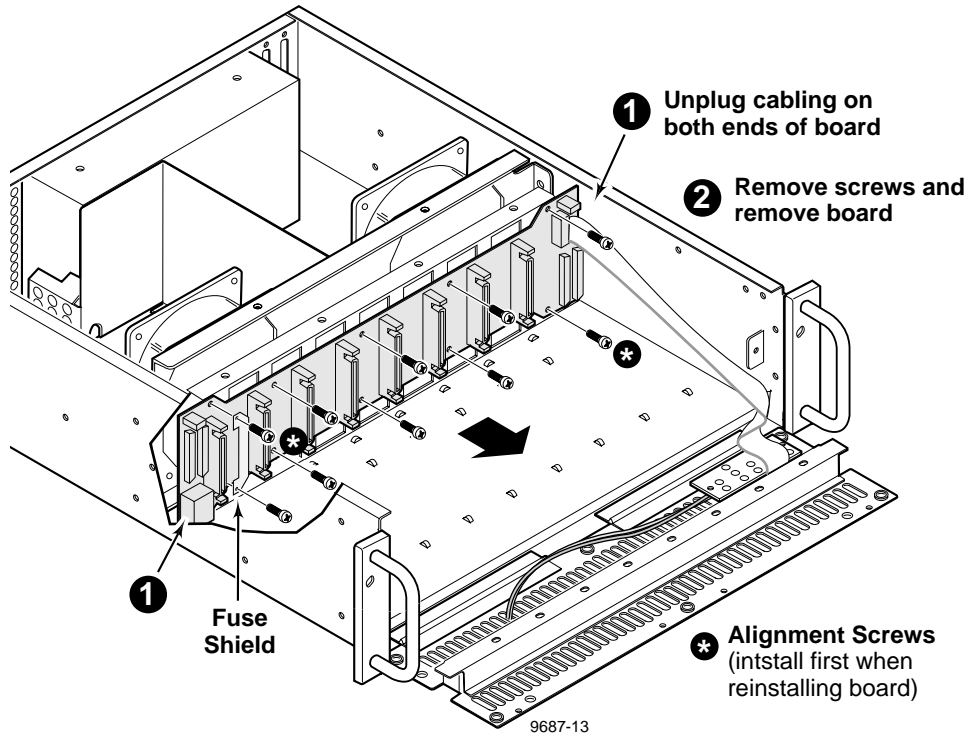

Figure 3-15. PDX218 SCSI Distribution Board Removal
Figure 3-15 shows removal of the SCSI Distribution board.
8. Disconnect all cables (listed below) from the SCSI Distribution board (Figure 3-15).
1. Align the SCSI Distribution board in the chassis by attaching the screw at the lower right and the screw at the upper left (Figure 3-15).
3. Connect all previously disconnected cables to the SCSI Distribution board (Figure 3-15).